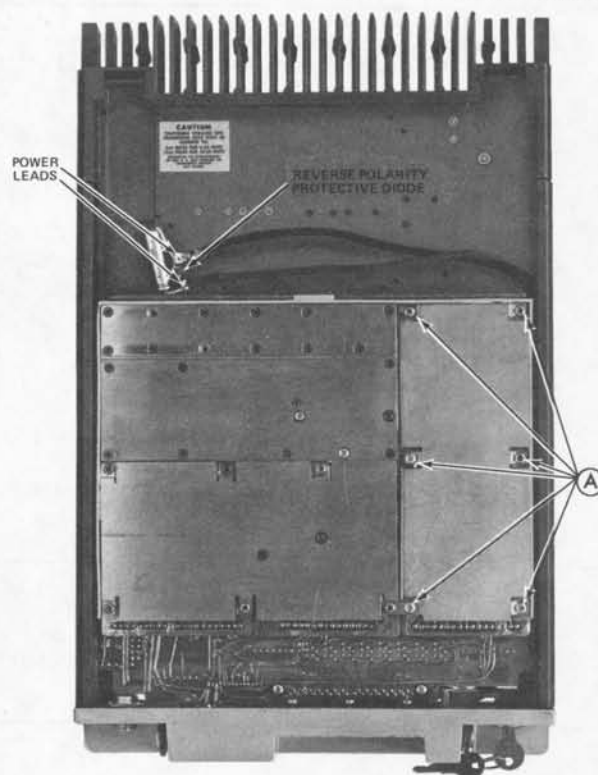

Figure 4 - Disassembly Procedure
2. Remove the top cover, then loosen the two bottom cover retaining screws and remove the bottom cover (See Figure 4).
- To remove the exciter board: (See Figure 4)
1. Unplug the exciter/PA cable (B) .
2. Remove the six screws (A) holding the exciter board and its bottom cover to the module mounting frame.
- To remove the PA assembly (See Figure 4)
1. Remove the PA top cover and unplug the exciter/PA cable (B) , the antenna, receiver and PTT cables (C) .
2. Remove the four side-rail screws (D) , and unsolder the power cables from the bottom of the PA assembly if desired.